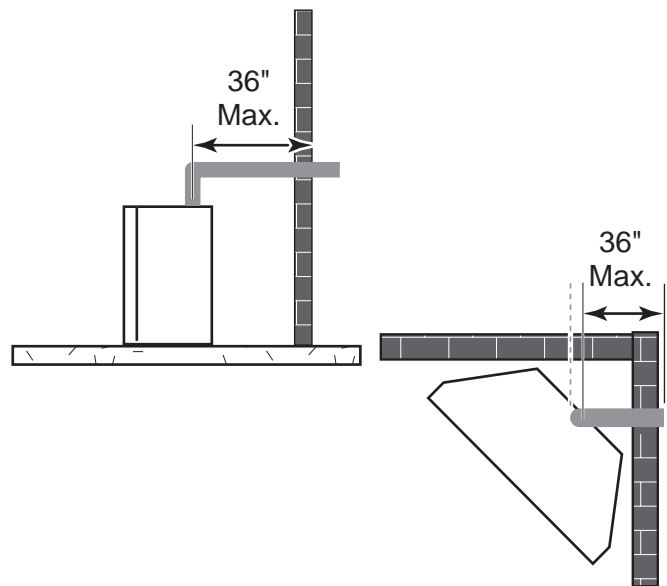

Figure 22 - Maximum Horizontal Run with No Rise
- If a 90° elbow is fitted directly on top of the fireplace flange the maximum horizontal vent run before the termination or a vertical rise is 36" (914 mm). See *Figure 22*.